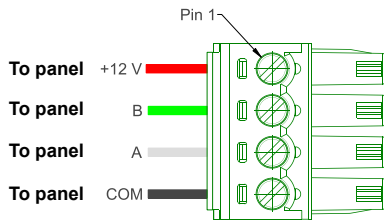

Figure 3 Connect the primary touchpad to the Gateway Mark II.
1. Use the included female connector to wire the touchpad to the Gateway Mark II as shown in Figure 3, "Connect the primary touchpad to the Gateway Mark II."